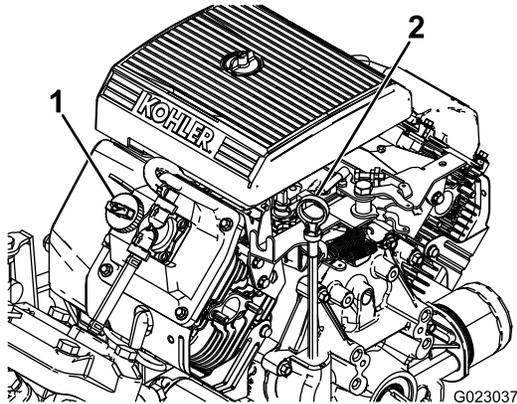

Figure 11
2. Remove the dipstick and wipe it with a clean rag (Figure 11).
4. If the oil level is low, remove the filler cap from the valve cover (Figure 11) and pour oil into the opening until the oil level is up to the FULL mark on the dipstick; refer to Servicing the Engine Oil \(page 46\) for the proper oil type and viscosity.